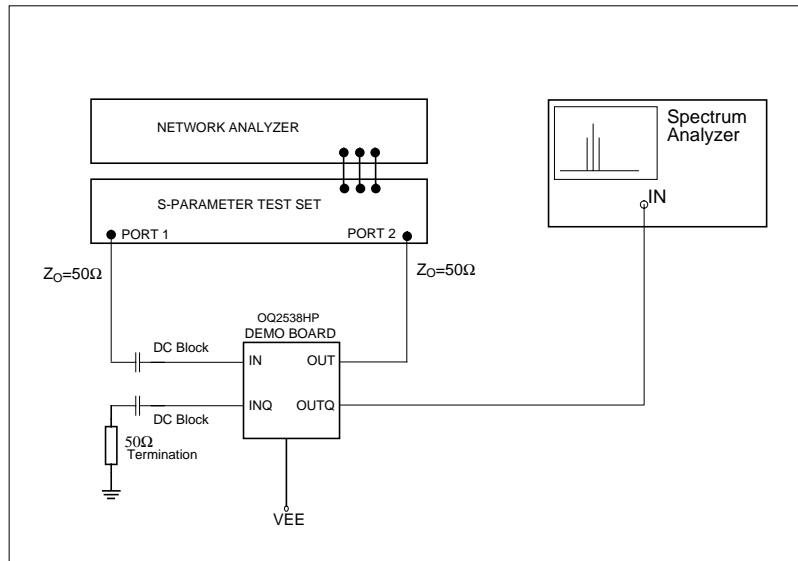

Fig 1. Functional test set up: frequency response and noise figure
**Linear (Small Signal) Gain:** To verify gain and bandwidth, measure the *forward transmission*  $S_{21}$  with a 2-port vector network analyser as shown in figure 1. The input power level of the analyser should be set to -50 dBm. Make sure, that the network analyser is calibrated for this power level. The  $S_{21}$  should be around 40dB with a bandwidth of about 3 GHz.